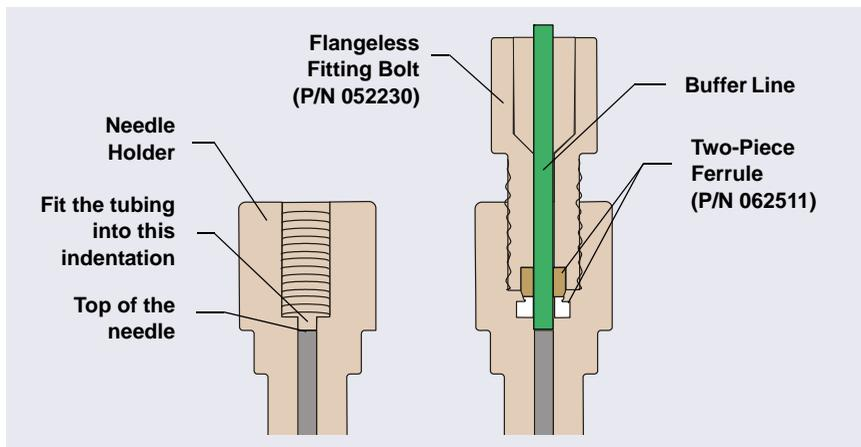

Figure 5-25. Cross-Section of Needle Holder and Buffer Line Fitting
- b. Insert the tubing down into the center of the needle holder. When you insert the tubing, you should feel the tubing drop into a small indentation inside the holder (see Figure 5-25). If not, move the tubing slightly until it does.